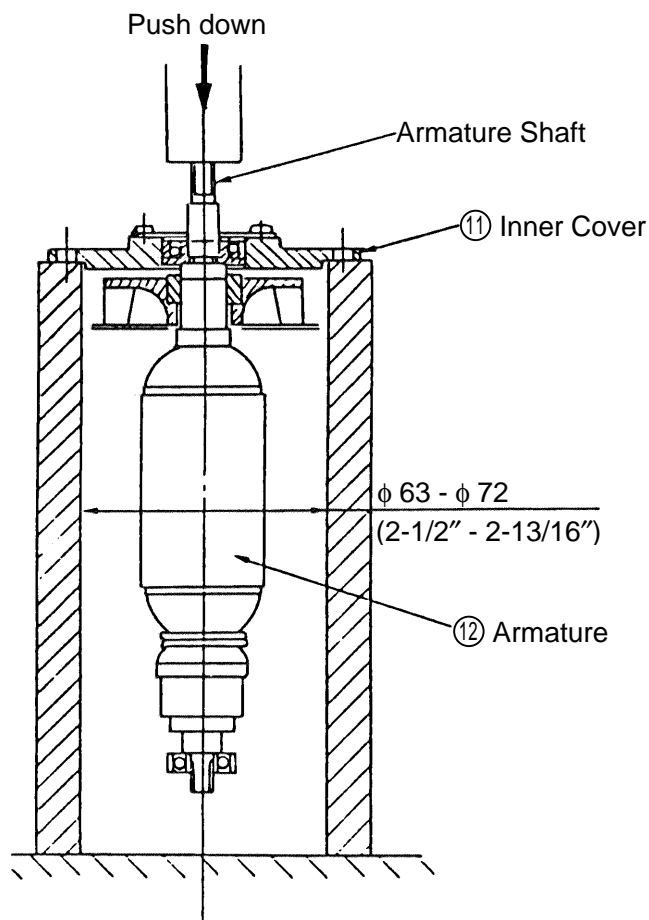

Fig. 3
- (1) Loosen the M5 x 20 Machine Screw ③② and remove the Wheel Guard (A) Ass'y ③⑤.
- (2) Remove the Brush Caps ⑤①, and take out the Carbon Brushes ⑤②.
- (3) Loosen the D5 x 25 Tapping Screws ①, and remove the Gear Cover ④. Separate the Inner Cover ①① from the Housing Ass'y ④④ with a screwdriver, and remove the Inner Cover ①① together with the Armature ①②.
- (4) Holding the Armature ①②, loosen the M6 Flange Nut ⑤ with a wrench, and remove the Pinion ⑥.
- (5) Support the Inner Cover ①① with a tubular jig (inner diameter  $\phi 63 - \phi 72$  is recommended), and push down on the Armature shaft with a hand press to remove the Armature ①②. (see Fig. 3)